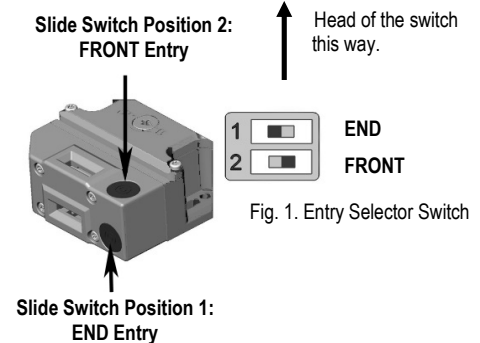

Fig. 1. Entry Selector Switch
2. M5 mounting bolts must be used to fix the switch and actuator mounting. The tightening torque to ensure reliable fixing is 4.0 Nm. Tightening torque for the lid screws and cable glands must be 1.5 Nm to ensure the IP seal. The actuator entry position (Front or End) can be selected by using the internal slide switch inside the switch cover (See Fig.1). Always fit the aperture plug to the unused entry aperture to prevent debris entering the switch mechanism.
Select Front or End sensing. (See Fig 1)